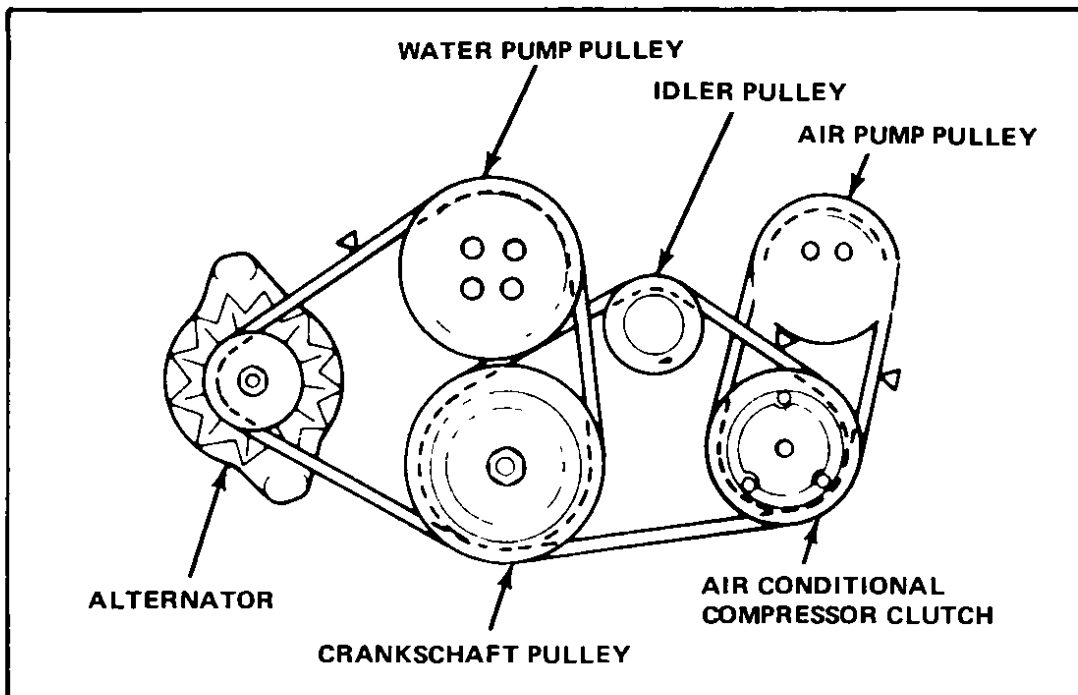

Fig 62 Typical drive belt arrangement
- 6 Install the replacement alternator and slip the drive belt over pulleys, Fig 62